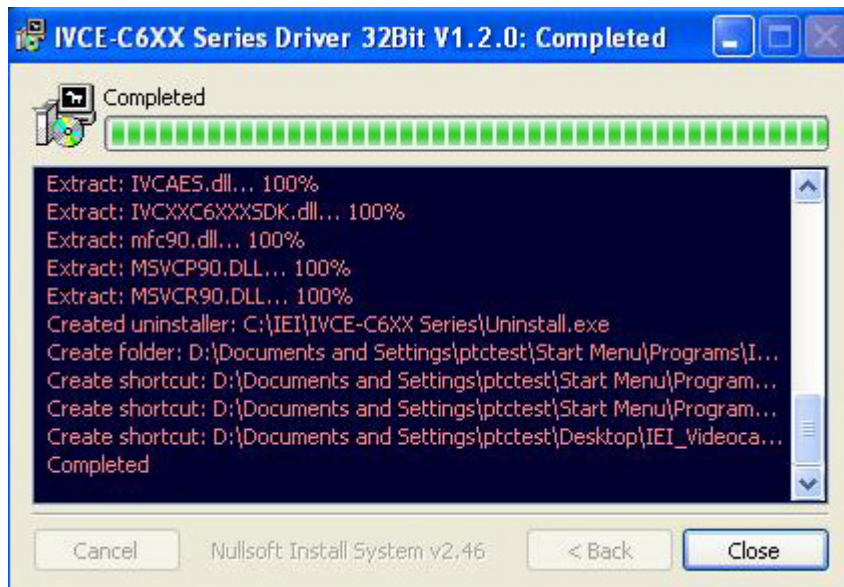

Figure 6-6: Driver Installation Complete
Step 9: When the driver installation is complete, the screen in **Figure 6-6** appears.